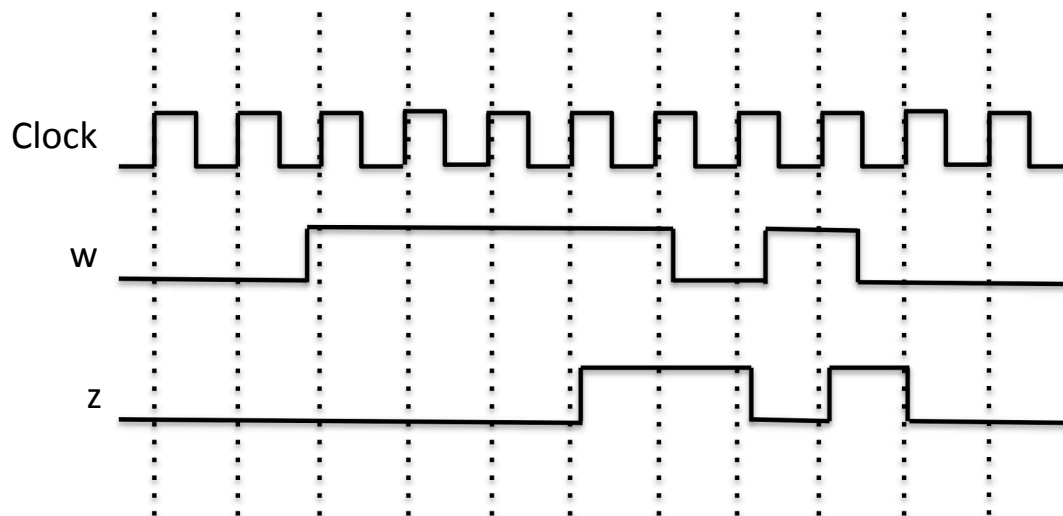
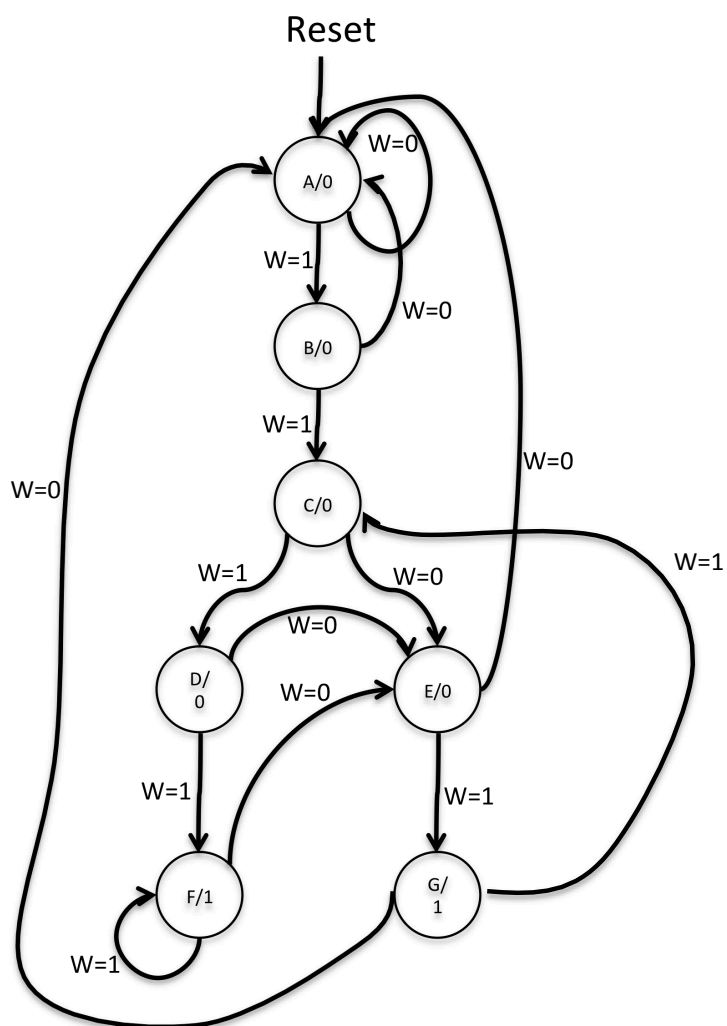

Figure 1: Required timing for the output  $z$ .
Figure 2: A state diagram for the FSM.
Given an input  $w$  and an output  $z$ , the output  $z$  is set to 1 Whenever  $w = 1$  for four consecutive clock pulses, or when the most recent sequence on  $w$  was 1101 for the last four clock pulses. In all other cases,  $z = 0$ . Overlapping sequences are allowed, so that if  $w = 1$  for five consecutive clock pulses the output  $z$  will be equal to 1 after both the fourth and fifth pulse. Figure 1 illustrates the required relationship between  $w$  and  $z$ . A state diagram for this FSM is shown in Figure 2.
2. Before modifying the Logisim starter circuit, assign flip-flop values to each of the states in Figure 2 and create a state table that illustrates the state transitions in response to the input signal  $w$ .